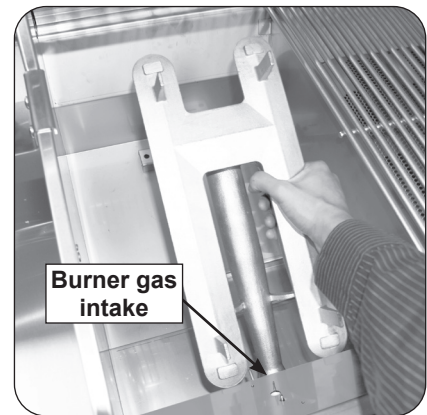

Fig. 2-2 Remove the burner
6. Remove the existing main burner by lifting the pegs extending from under the back end of the burner out of the two (2) holes on the bottom of the oven. After the pegs have been freed, move the whole burner toward the back of the grill so that the burner gas intake pulls away from the gas orifice at the front fire wall of the grill (see Fig. 2-2). Then carefully lift the burner out and set it aside. Retain the clip with the burner so that they can be re-installed in the future if desired.